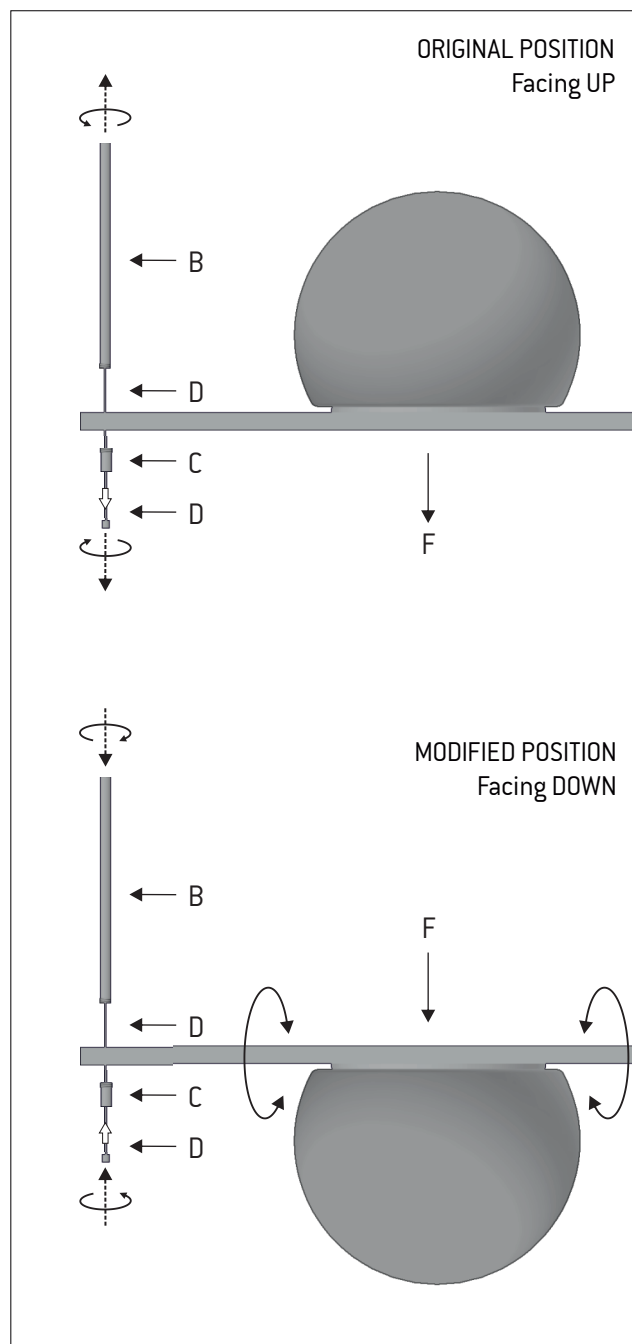

Figure 3
Flip the lamp (F) to place the shades facing down. Screw back the pieces (B and C), the stem (B) should be on the opposite side of the shade. Insert the steel cable through the piece (C) until it appears at the end of the stem (B). Carry out the same action at both ends of the lamp. Figure 3.
**Attention:** the stem (B), where the steel cable passes through, contains a plastic piece that maintains the cable centered. In case it comes out it must be placed again. Be careful not to lose this piece.